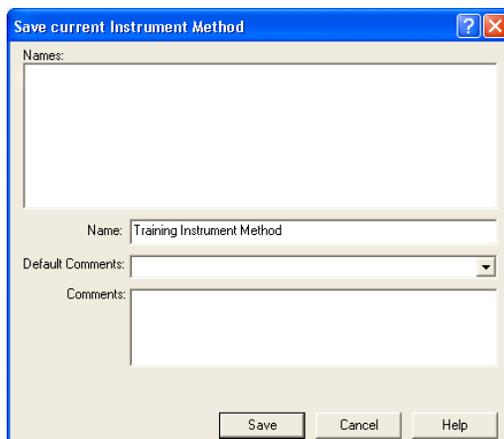

Figure 3-10 Save Current Instrument Method Dialog Box
1. Click the **Save** tool. The Save current Instrument Method dialog box appears (Figure 3-10).